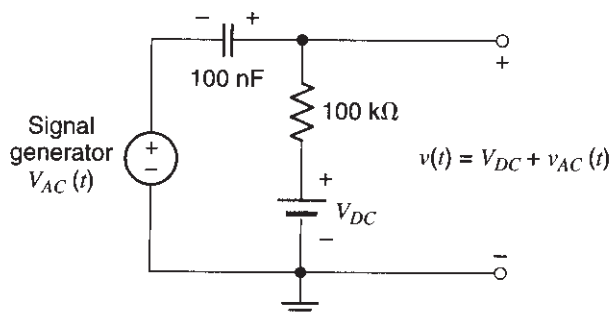

Fig. 3
1. Hook up the circuit of Fig. 1, using connections as short as possible, and with the voltage of PS1 set to zero for now. The chip that will be used in this experiment is the CD4007, the same chip used in the first half of Experiment 11. Fig. 3 of that experiment shows the pin assignment for the transistor we will be using. The circuit of Fig. 1 will be used in the following steps to investigate the use of a MOSFET as an amplifier.
12. Consider the circuit of Fig. 3. It contains a DC source V_{DC} and an AC source $v_{AC}(t)$. The output voltage of the circuit is affected by both of these voltages. If the frequency of the signal is much higher than $1/(2\pi RC)$, the output of the circuit will almost be $v(t) = V_{DC} + v_{AC}(t)$, as indicated in the figure. To see this, consider the effect of each voltage source in the circuit by itself, as explained below.
Assume now that the DC voltage in Fig. 3 is zero instead; this is equivalent to assuming that the DC source is replaced by a short, as shown in Fig. 4(b). The capacitor and resistor now form a high-pass filter with cutoff frequency $1/(2\pi RC)$ (see Experiment 7). If the frequency of the signal is much higher than this, the signal will pass to the output; in other words, $v(t) = v_{AC}(t)$, as indicated in the figure.
Since the circuit is *linear*, superposition will apply: When *both* voltage sources in Fig. 3 are active, the output voltage will be the sum of the individual results in Figs. 4(a) and (b), that is, $v(t) = V_{DC} + v_{AC}(t)$, as indicated in Fig. 3. Thus, we have a circuit in which the AC voltage is coupled to the output through the capacitor (which is, for this reason, called a *coupling capacitor*) and is added to the DC voltage. At the same time, the capacitor blocks the DC voltage from reaching the AC source.
Hook up the circuit of Fig. 3. (CAUTION: It is unlikely that the 100 nF capacitor will have polarity indicated on it, but if it does, make sure to observe it, as shown in Fig. 3.) Use a DC voltage of 2 or 3 volts and a signal voltage with an amplitude of about 0.25 V and a frequency of 1 kHz. [Is this frequency much higher than
- Remove PS1 from the circuit of Fig. 1, and instead use the circuit of Fig. 3 to produce the voltage v_{GS} , as shown in Fig. 5 (for now, set the signal amplitude to 0). The resistor shown connected across the output is meant to indicate any load the amplifier is supposed to drive; for our purposes, this load will be just a scope probe. The probe has a large input resistance (typically $1\text{ M}\Omega$) and can be connected there without disturbing the operation of the amplifier. Capacitor C_2 is a coupling capacitor, which allows the AC variation of v_{DS} to appear across the load but blocks the DC value of that voltage. Essentially, C_2 forms a high-pass filter together with the load resistance. This filter passes the (high-frequency) AC variation of v_{DS} to the load but rejects the DC (i.e., zero-frequency) part of v_{DS} . (In the unlikely event that the capacitors indicate polarity on them, make sure to observe it, as shown in Fig. 5.)